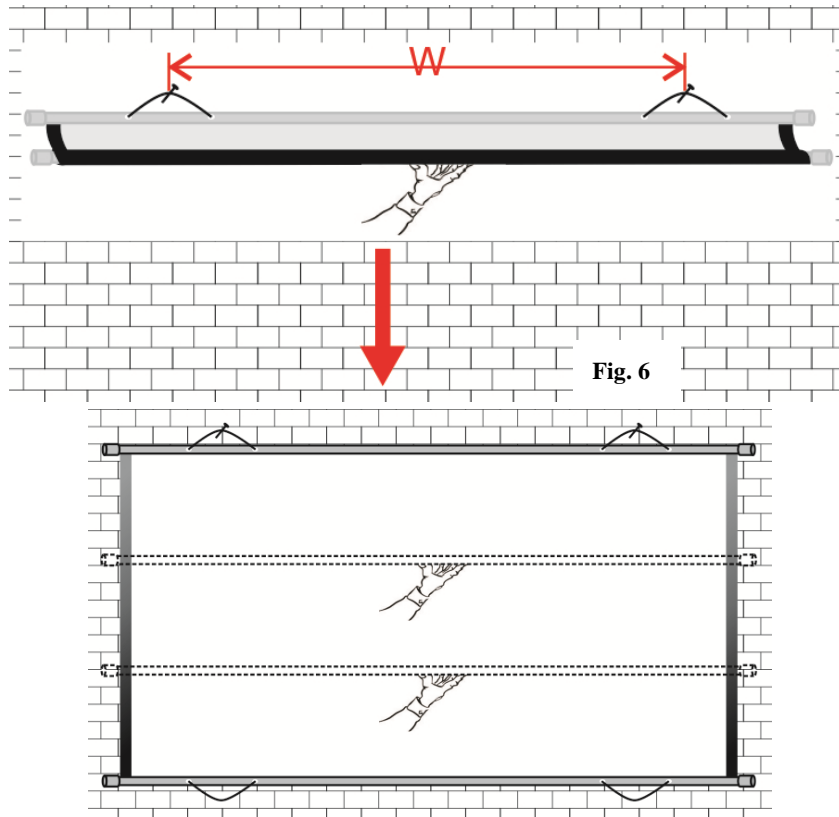

Fig. 6
1. Measure the distance between the two hooks (**Fig. 6**) which are located on the top support bar and install two screws or nails in the area where the screen will be installed. Once the nails or screws are in place, hang the screen by the wall hooks and carefully roll the screen down.